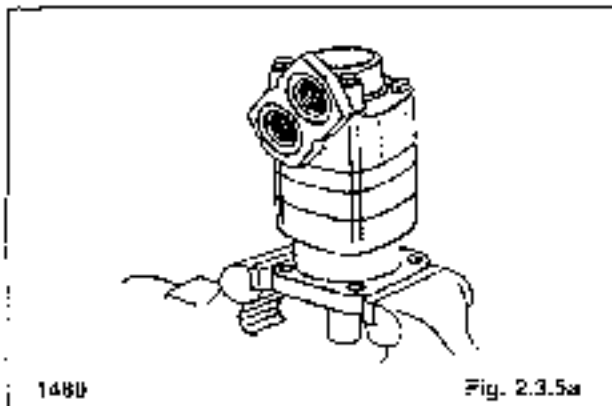

Fig. 2.3.5a
1. Place the motor in a vice with the output shaft facing down (fig. 2.3.5a). Do not clamp the motor on the housing as excessive pressure will cause distortion.
2. Remove the four bolts from the motor valve housing (fig. 2.3.5a). On reassembly torque the mounting bolts to 62.5 ft. lbs. (84.7 N.M.). Follow the torque procedure outlined in section 2.3.7.